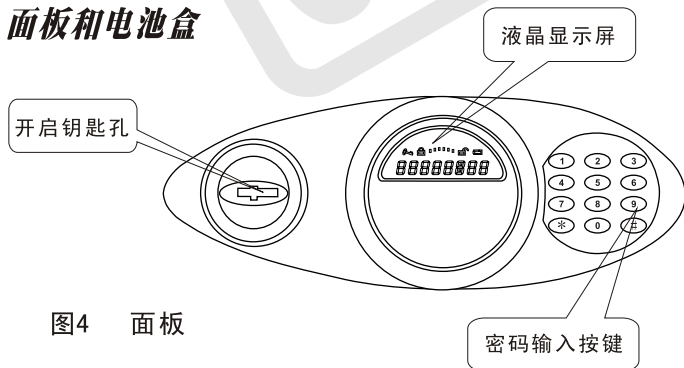
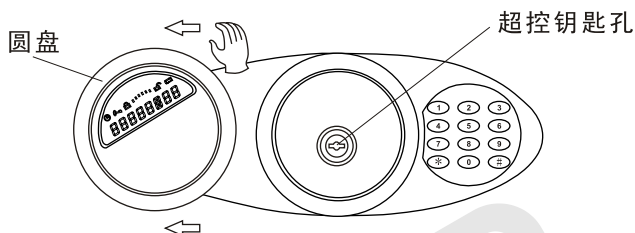

图4 面板
图6
- ☐ 按照第8页图6所示，逆时针  旋转面板上的圆盘并取下，可看见后面的超控钥匙孔，再按照第5页图3所示，先将超控钥匙插入超控钥匙孔并逆时针  转动到位，然后将主钥匙插入第5页图4所示的开启钥匙孔，顺时针  转动到位，将保管箱门打开。（G1-410、G1-510、G1-610、G1-710型保管箱需顺时针  转动圆形执手后，方可开启保管箱门。）
- ☐ Turn the LCD mounting disc counterclockwise and remove it from the panel (Figure 6, P.8 in User's Manual). Locate the override keyhole behind the disc. Insert the override key (Figure 3, P.5 in User's Manual) into its keyhole and turn it counterclockwise to the end, then insert the lock key into the door-opening keyhole (Figure 4, P.5 in User's Manual) and turn it clockwise to the end to open the door. (Model G1-410, G1-510, G1-610 and G1-710 need to turn the knob clockwise to open the door.)
请将保管箱的主钥匙插入面板上的开启钥匙孔（见图3和图4）；